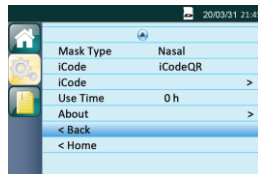

Fig. 13-9
(1) Returning to the Initial Setup Interface Move the cursor to the **Back** option by turning **the Knob**, as shown in Fig. 13-9.